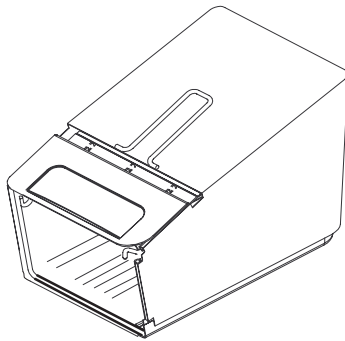

Figure 6
2. Ensure that the sides of the bag base are **inside** the bag frame as shown in Figure 6.